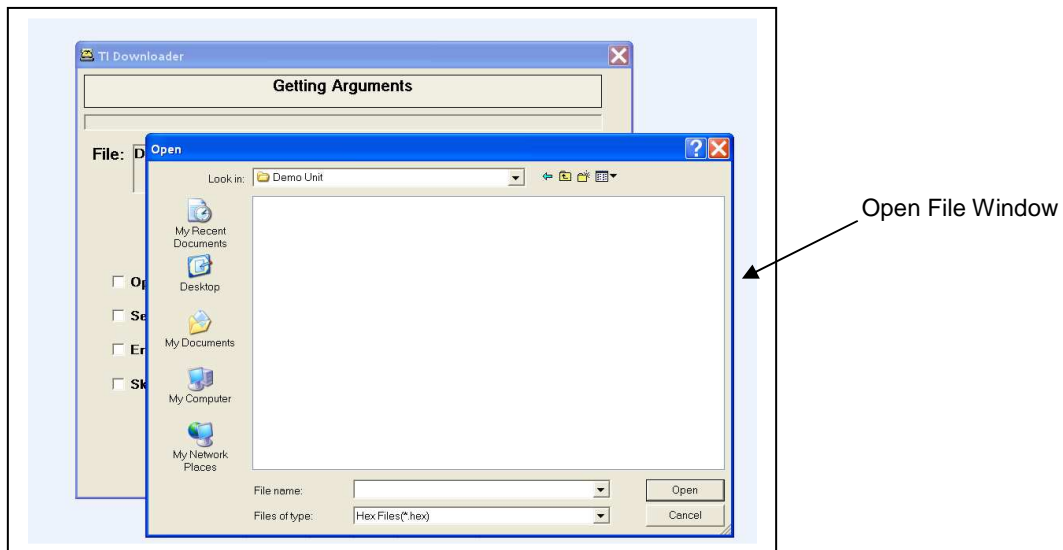

Figure 2
10. The “Open file” window will automatically be displayed (Figure 2).